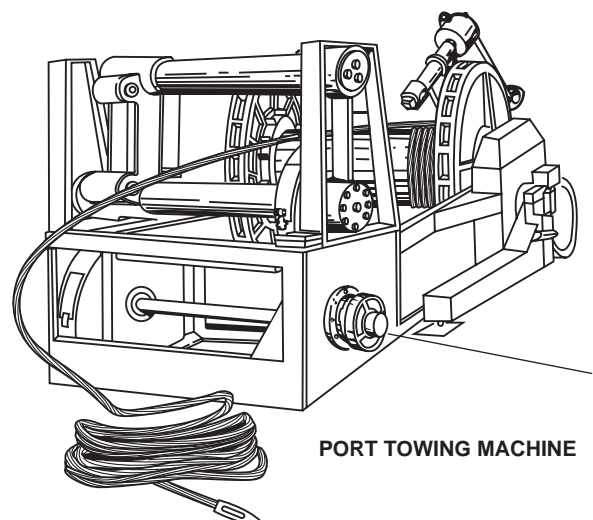

Figure 12. Towing Machine Spooling Device
2. If the spooling device is not properly aligned to the towline, realign the spooling device by pulling OUT on the spooling device handwheel (figure 12, item 1) and turning it in the desired direction.
3. After realigning the spooling device, push IN on the spooling device handwheel (figure 12, item 1) to engage it in the drive.